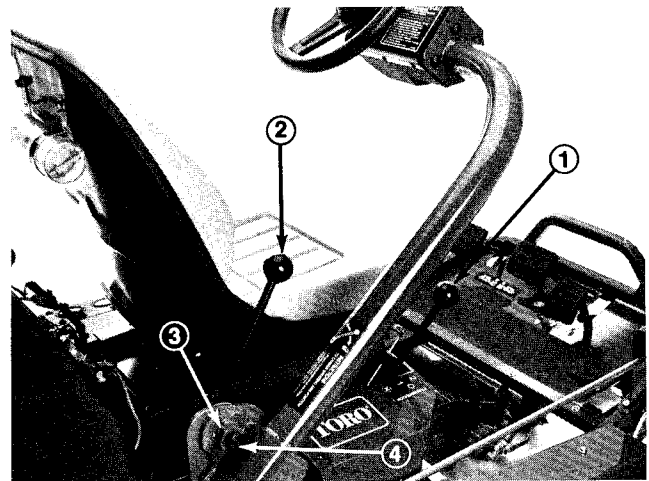

Figure 15
SHIFT SELECTOR (Fig.15) – Located on the top of the right hand panel. Provides two (2) traction selections, plus a “NEUTRAL” position. It is permissible to shift from one selection to another while the Greensmaster 3100 is in motion. No damage will result.
STEERING ARM LOCKING LEVER (Fig.15) – Rotate lever rearward to loosen adjustment, raise or lower steering arm for operator comfort, then, forward to tighten adjustment.